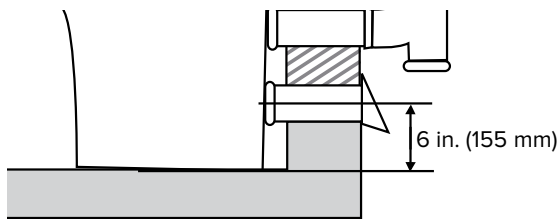

fig. 10
3. Install the supplied short vent pipes with the conical/beveled end towards the toilet; see fig. 10 and 11. Make a mark about  $1\frac{1}{16}$  in. (40 mm) from the end of the pipe so you know how far to push the pipe into the toilet.